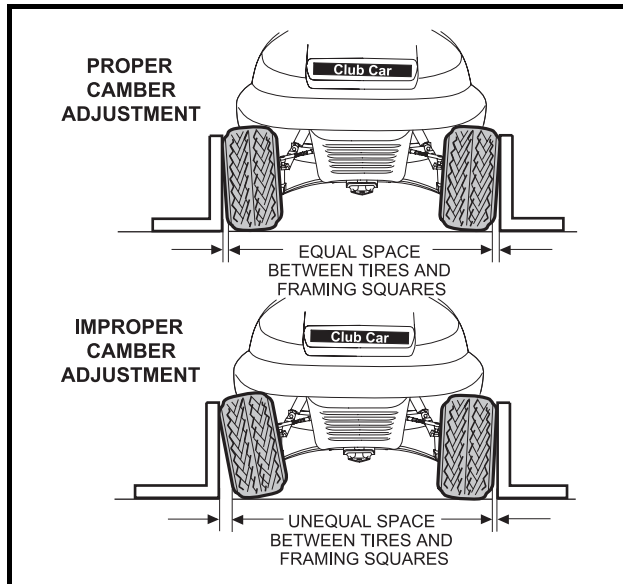
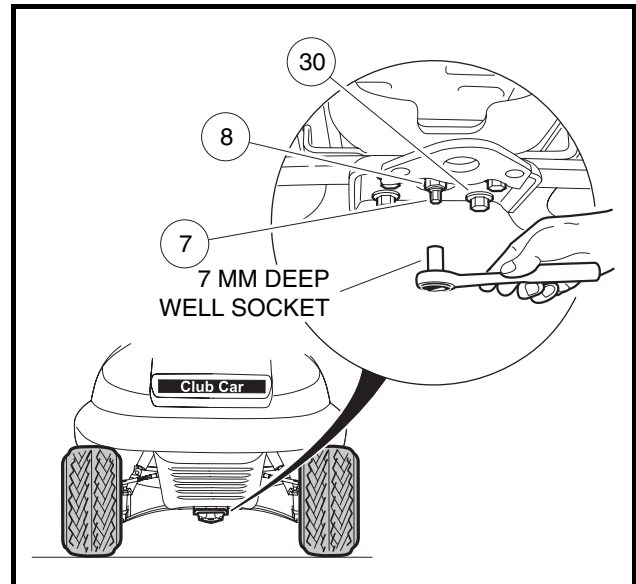
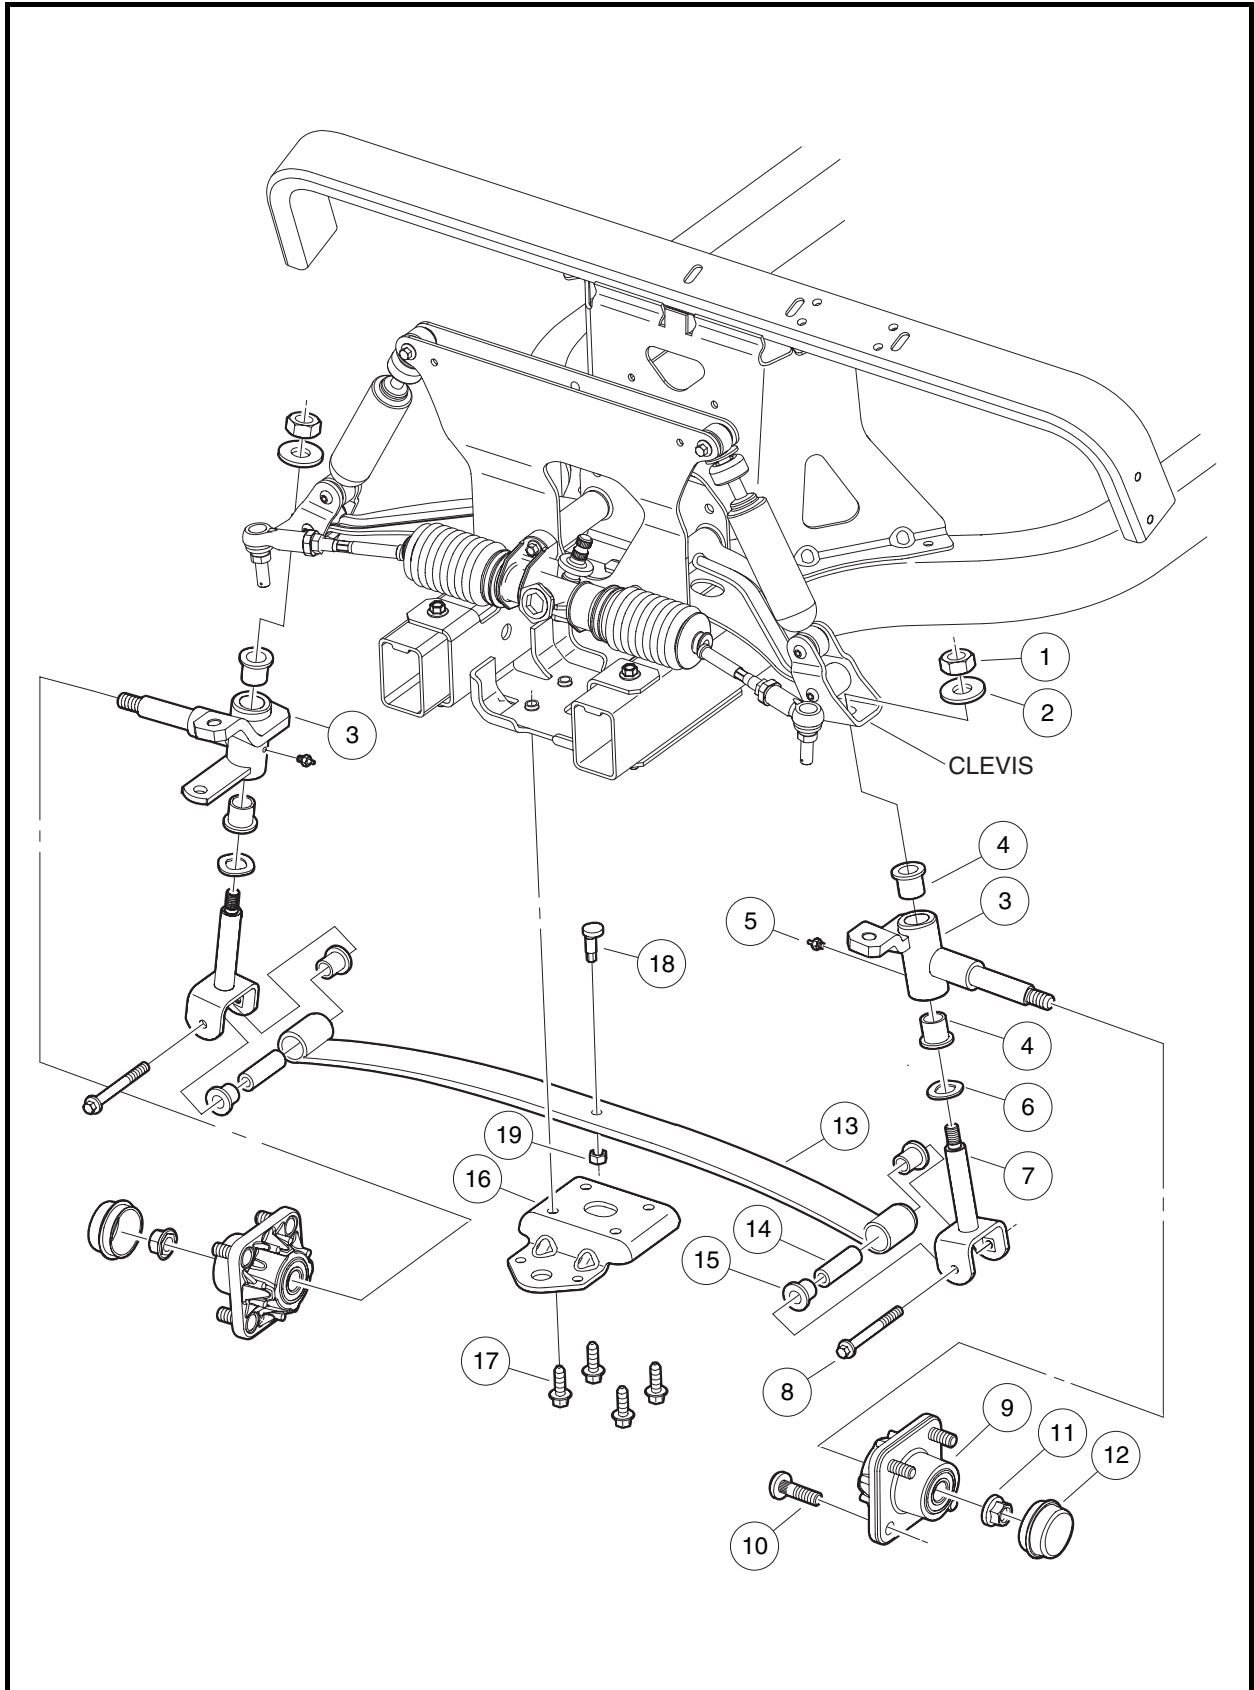

Figure 7-14 Check Camber
Figure 7-15 Adjust Camber
Figure 7-19 Lower Front Suspension Assembly
1. Check each front wheel with a framing square. At the floor (or ground), there should be an equal amount of space between each tire and the framing square (**Figure 7-14, Page 7-11**).
2. Loosen, but do not remove, the four bolts (17) that secure the leaf spring (13) to the bottom spring plate (16) (**Figure 7-19, Page 7-16**). **See also Figure 7-15, Page 7-11.**
3. Loosen, but do not remove, the hex nut (8) on the adjustment eccentric (7) (**Figure 7-15, Page 7-11**) in the center of the spring. **See also Figure 7-19, Page 7-16.**
4. Use a 7 mm deep well socket to rotate the eccentric (**Figure 7-15, Page 7-11**).
5. After adjusting camber, use a crisscross pattern to tighten the four spring retaining bolts (17) (**Figure 7-19, Page 7-16**) to 37 ft-lb (50 N·m). Then roll the vehicle forward one full tire revolution and recheck the camber. **See also Figure 7-14, Page 7-11.**
6. Tighten the hex nut (8) on the adjustment eccentric (7) to 10 ft-lb (13.5 N·m) (**Figure 7-15, Page 7-11**) **See also Figure 7-19, Page 7-16.**
1. Loosen jam nuts (13) to allow later rotation of the tie rod ends (12) (**Figure 7-19, Page 7-16**).
2. Remove the retaining pins (15) and retaining nuts (14).
1. Thread tie rod ends (12) onto steering gear to a depth of 1/2 inch (12.5 mm) (**Figure 7-19, Page 7-16**).
2. Install tie rod ends (12) into the spindle tabs. Install the retaining nuts (14) and retaining pins (15) (**Figure 7-19, Page 7-16**).
3. Remove the bolts (8) from the bottom of each kingpin (7) (**Figure 7-19, Page 7-16**).
4. Remove the four bolts (17) and bottom spring plate (16).
5. Remove leaf spring (13).
6. Check the condition of the urethane bushings (15) and steel sleeves (14). Replace any that are worn or damaged.
1. Install urethane bushings (15) and steel sleeves (14) into leaf spring eyes (**Figure 7-19, Page 7-16**).
2. Install leaf spring (13), bottom spring plate (16), and four bolts (17). Using a crisscross pattern sequence, tighten bolts to 37 ft-lb (50 N·m).
3. Install spring in kingpins (7) with bolts (8). Tighten to 30 ft-lb (41 N·m).
3. Remove the nut (1) and conical washer (2) from the top of the kingpin (7) (**Figure 7-19, Page 7-16**).
5. Slide the spindle (3) off the kingpin (7).
6. Remove the wave washer (6) and inspect it. If the washer is broken or has a wave bottom to wave crest height dimension of less than 0.040 inch (1 mm), it must be replaced.
7. Remove bolt (8) from bottom of kingpin (7) and remove kingpin.
9. Inspect the bushings (4). If the bushings are worn or damaged, remove them and press in new ones.
2. Install the kingpin (7) over the leaf spring eye. Insert the bolt (8) (**Figure 7-19, Page 7-16**). Tighten the bolt to 30 ft-lb (41 N·m).
3. Install the wave washer (6) on the kingpin.
4. Install the steering spindle on the kingpin. Place upper clevis over the kingpin threads and install conical washer (2) and nut (1). Tighten the nut to 50 ft-lb (68 N·m).
2. Remove dust cap (12) and lock nut (11) (**Figure 7-19, Page 7-16**).
3. Slide the hub assembly (9) off of the spindle shaft (3).
1. Clean and apply a light coat of anti-seize lubricant to the spindle shaft (3).
2. Slide the hub assembly (9) onto the spindle shaft (**Figure 7-19, Page 7-16**).
3. Install a new flanged lock nut (11) and tighten to 50 ft-lb (68 N·m).